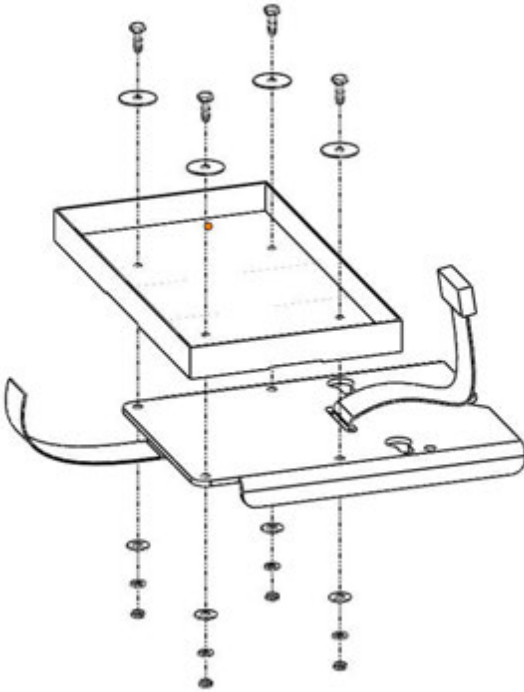

Figure 7.1
**1/4" -20 x 3/4" Grade 5 Hex Bolts with a 1/4" USS Washer, a 1/4" Lock Washer, and a 1/4" -20 Grade 5 Nut.** Torque to 7 ft-lbs. See figure 7.1
Slide the non-buckle end of the **Nylon Strap** down through the slotted hole in the **Battery Tray** (see figure 7.1). Using the **Nylon Strap**, secure the lid to the **battery box**.